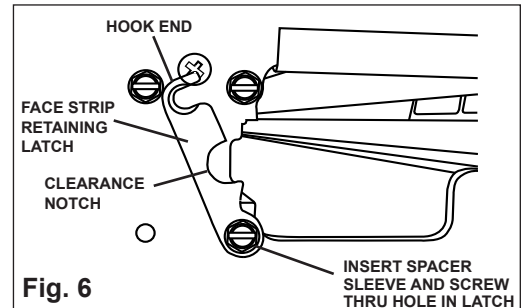

Fig. 6
- a. Install one of the Face Strip Retaining Latches so that the Lacer Pin clearance notch faces towards the Face Strip. The hook end of the Face Strip Retaining Latch should be located at the top. Insert spacer sleeve and screw through hole in other end of latch. See Fig. 6.